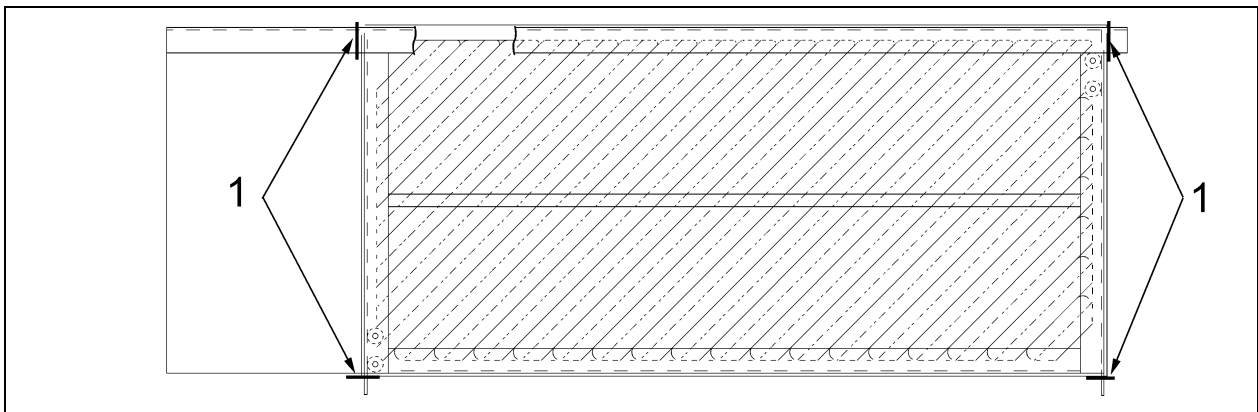

Figure 3: Finned floor to remove. (1) Angular brackets to cut.
10. Remove the finned floor of the condenser compartment (figure 3). Using a circular saw cut the welding and the angular brackets located on every corner.